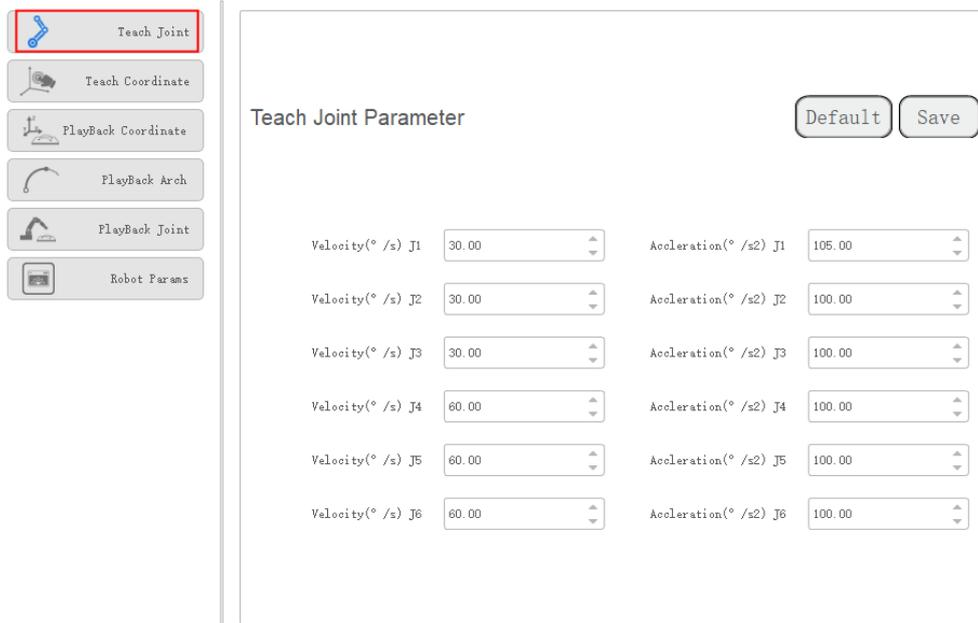

Figure 3.14 Jogging parameters in the Joint coordinate system
- **Teach Joint Parameter:** Set the maximum velocity and acceleration in the Joint coordinate system when jogging a robot. The jogging parameters of a SR robot in the Joint coordinate system are as shown in Figure 3.14.